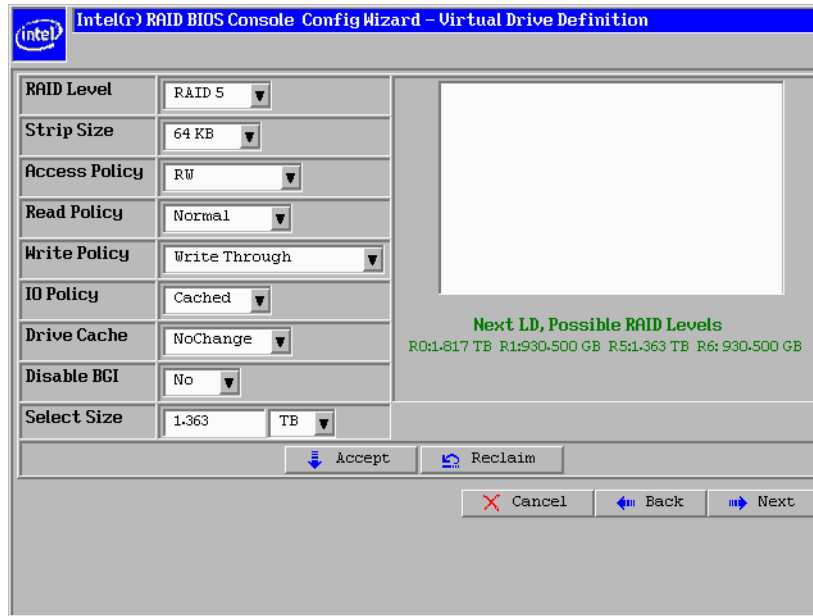

Figure 17. Intel® RAID BIOS Console 2 Configuration Wizard – virtual drive definition example for RAID 5
8. Set the parameter values for the virtual drive definition (Figure 17). Specifically, set the **RAID Level** to RAID 0, 1, 5, or 6 and the expected volume size in the **Select Size** field. Depending on the chosen RAID level, the volume size may need to be manually entered. The possible sizes for some RAID levels are listed on the right panel of the screen for reference. For information on setting these and other parameters, see section 5.1.9.